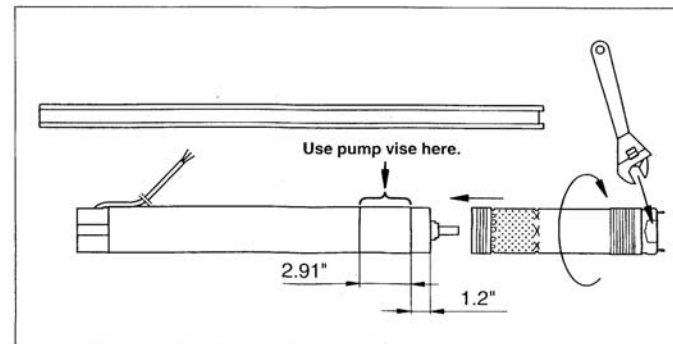

Fig. 12
1. Place the motor horizontally in a vice and tighten it, see fig. 12.
3. Screw the pump end on the motor. A spanner may be used on the clamping faces of the pump part, see fig.12.